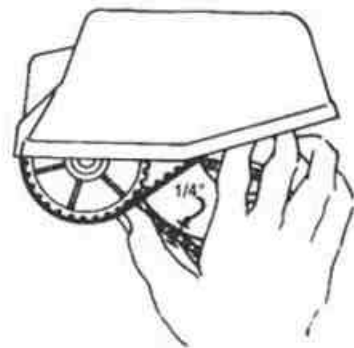

Figure 22
5. Loosen nuts holding motor in place just enough to allow movement of motor. Using a big screwdriver, pry motor away from head frame until belt has 1/4-inch (6.4 mm) (Figure 22) deflection in